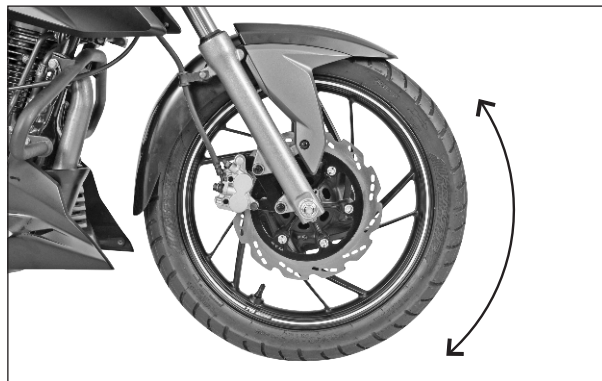

Fig. 2.116
- Slowly rotate both the wheels by hand and observe for any abnormal noise / tightness. (Fig. 2.116)